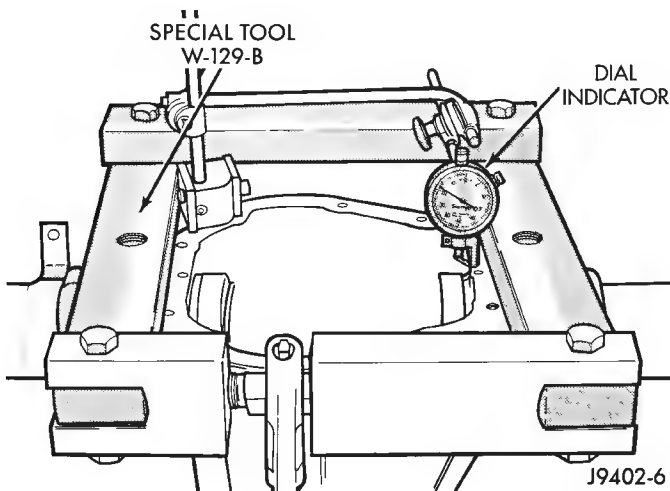
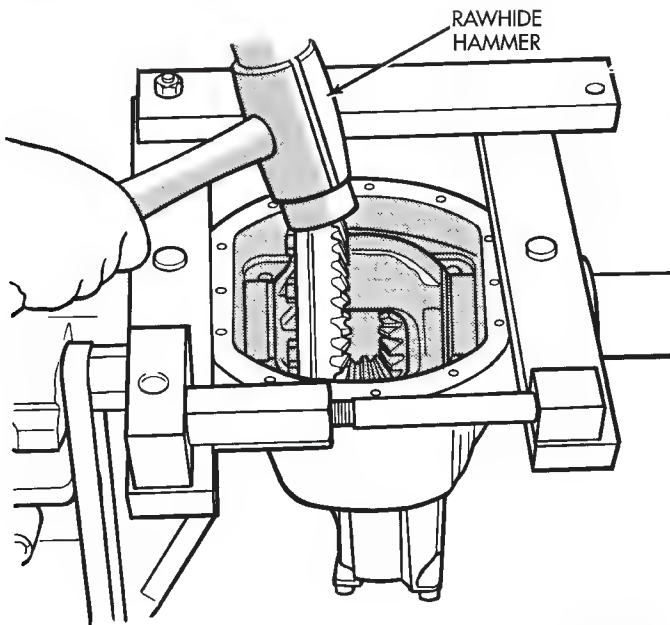

Fig. 58 Spread Differential Housing
Fig. 59 Differential Installation
(1) Position Spreader W-129-B with the tool dowel pins seated in the locating holes (Fig. 58). Install the holddown clamps and tighten the tool turnbuckle finger-tight.
(2) Install a pilot stud at the left side of the differential housing. Attach Dial Indicator to housing pilot stud. Load the indicator plunger against the opposite side of the housing (Fig. 58) and zero the indicator.
(3) Spread the housing enough to install the case in the housing. Measure the distance with the dial indicator (Fig. 58).
(4) Remove the dial indicator.
(5) Install case in the housing. Tap the differential case to ensure the bearings are fully seated (Fig. 59). Remove the spreader.